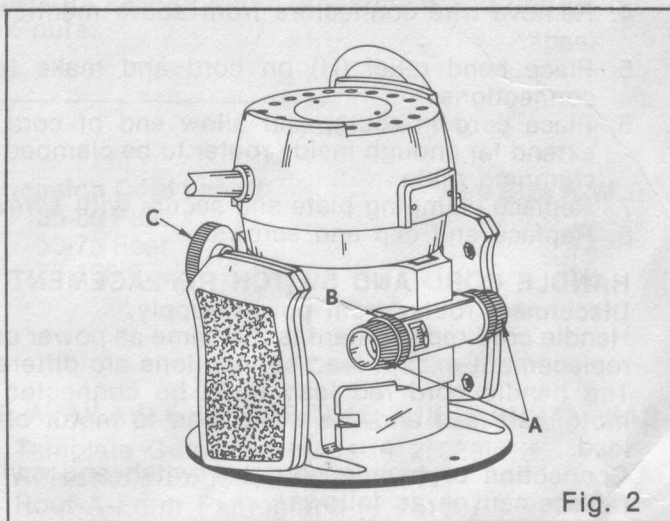

Fig. 2
1. Place the router on a flat surface and loosen the lock knob (C). See figure 2.
2. Turn the height adjusting knob (A) until tip of router bit touches surface.
3. Adjust the indicator knob (B) to "O".
6. Tighten lock knob (C).